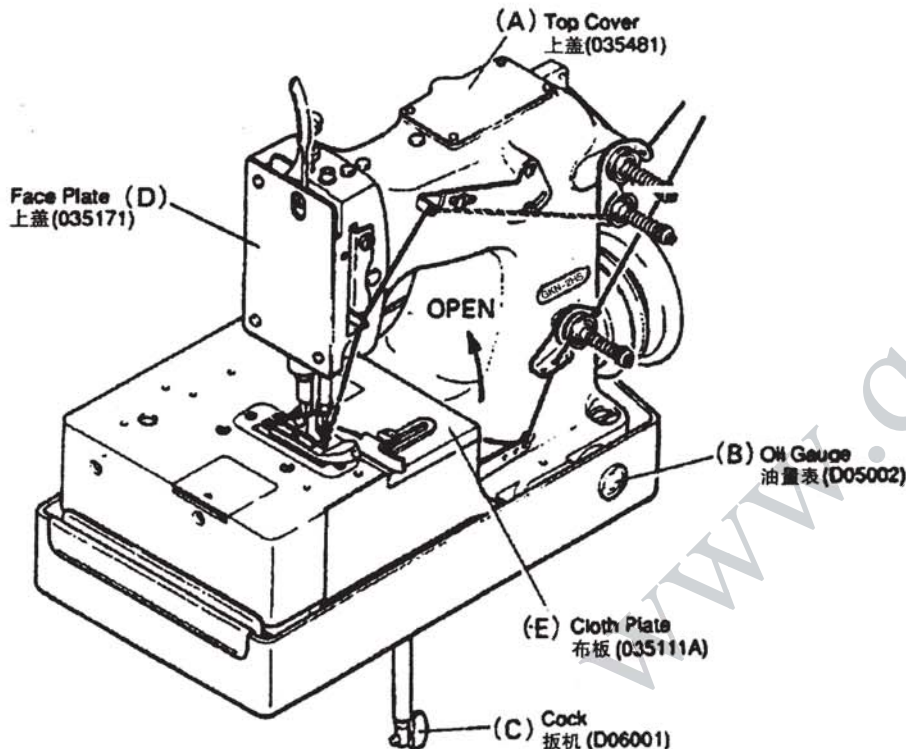

Fig.1
- Remove Top Cover (A). of Fig.1, and fill oil to "H" line of Oil Gauge (B). Use mineral oil of 22 to 32 cst kinetic viscosity at 40°C.
- 上盖 (A) (035481) 拆卸，注油至油表 "H" 止。注入的油为40℃，使用动黏度22CST ~ 32CST的矿油 (例) SHELL#32
- To drain oil, open Cock (C). of Fig.1 Replace oil once every 2,000 hours of operation.
- a) Needle Bar Bushing, upper and lower (after removing upper Face Plate (D)).
- b) Feed Lift Eccentric Ass'y (after opening Cloth Plate (E)).